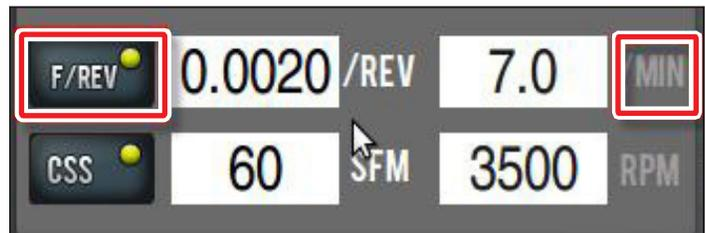

Figure 5.5
**F/REV, F/MIN DROs** – The RapidTurn recognizes two feed rate modes: units per minute (G94) and units per revolution (or REV) of spindle (G95) as shown in **Figure 5.5**. For more information on feed rate modes, refer to chapter 6, *Programming*. In units per minute feed rate mode, a G-code F word is interpreted to mean the controlled point should move at a certain number of inches or millimeters per minute, depending upon what length units are being used and which axis or axes are moving.